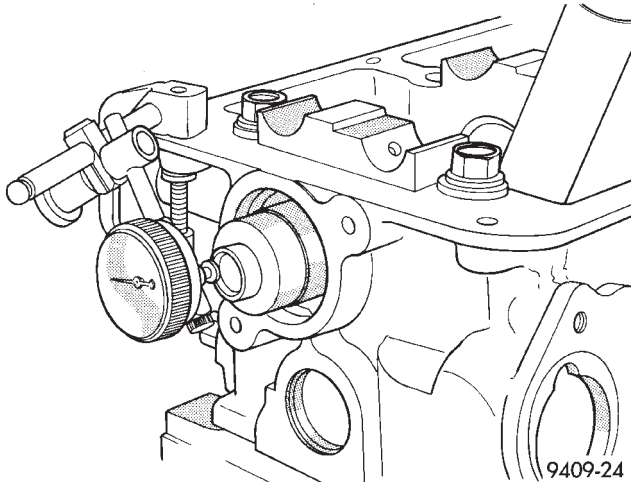

Fig. 41 Camshaft End Play
- (2) Using a suitable tool, move camshaft as far rearward as it will go.
- (3) Zero dial indicator (Fig. 41).
- (4) Move camshaft as far forward as it will go.
- (5) End play travel: 0.1 - 0.2 mm (0.004 - 0.008 inch.). Max. Travel: 0.4 mm (0.016 in.)